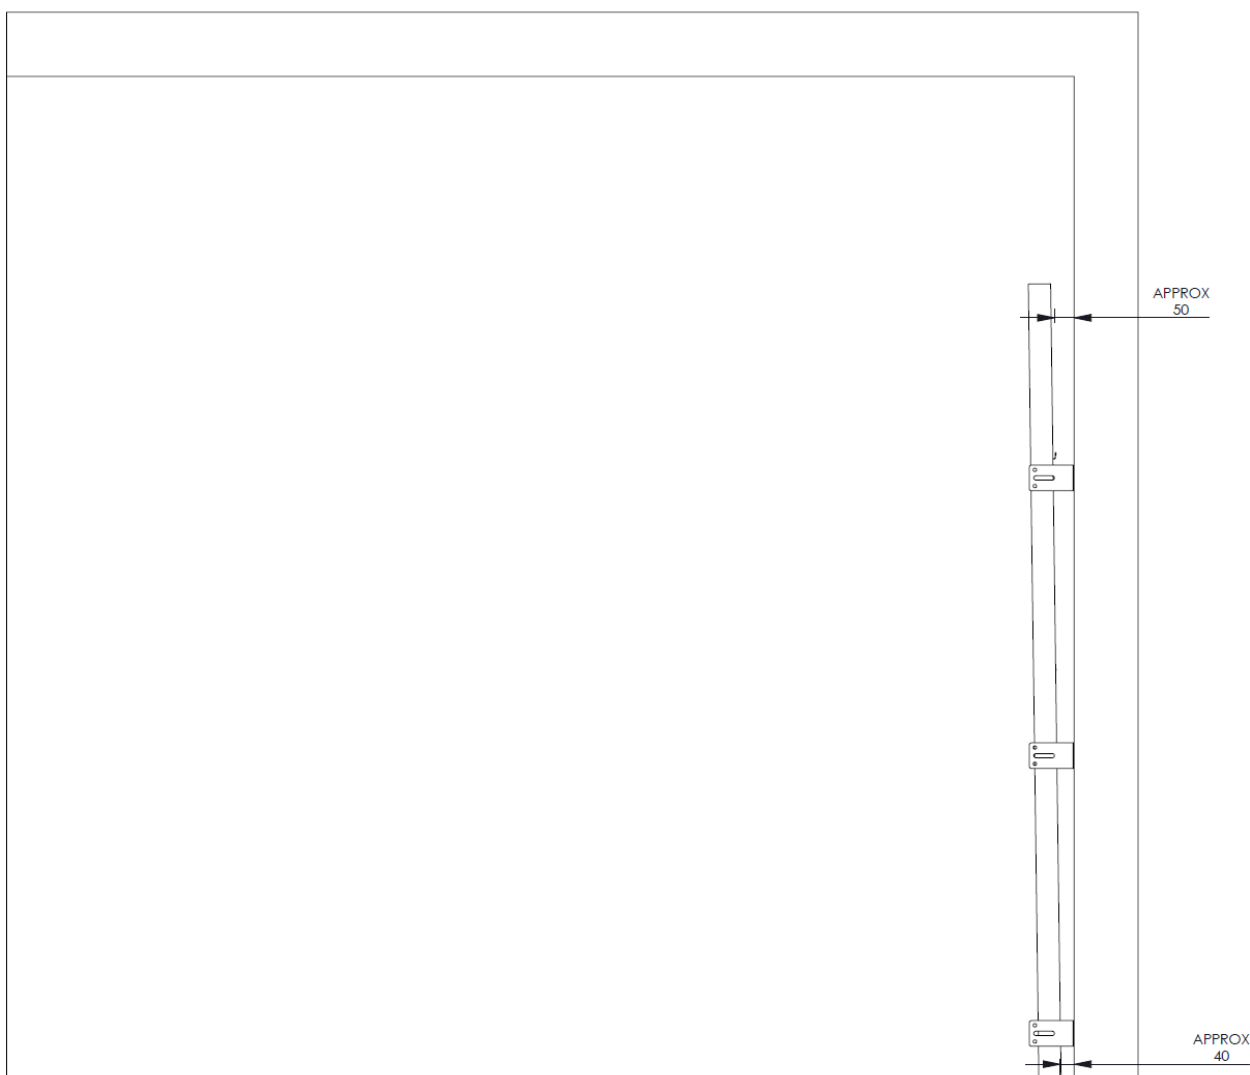

Figure 14
- c. Adjust guides so there is approx. 40mm between wall and guide at bottom and 50mm at top (Figure 14). Ensure when panel is pushed forward it is clear of the garage opening, i.e. brickwork/masonry wall.